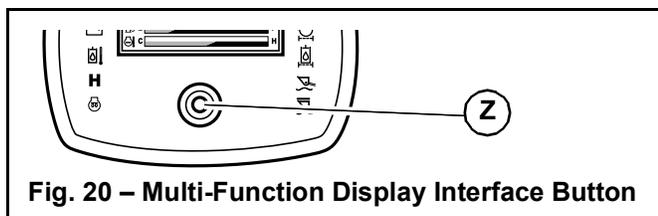
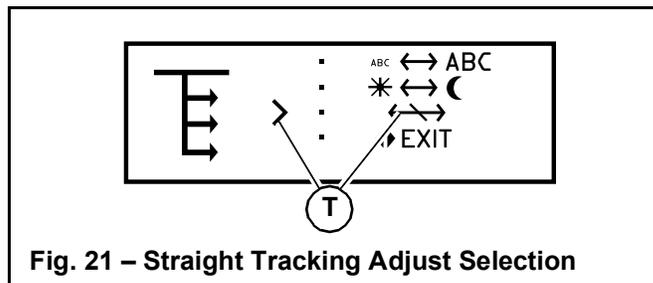
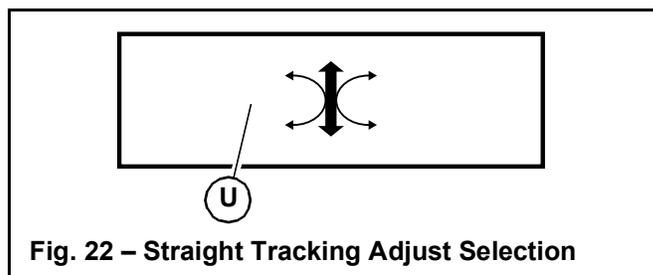
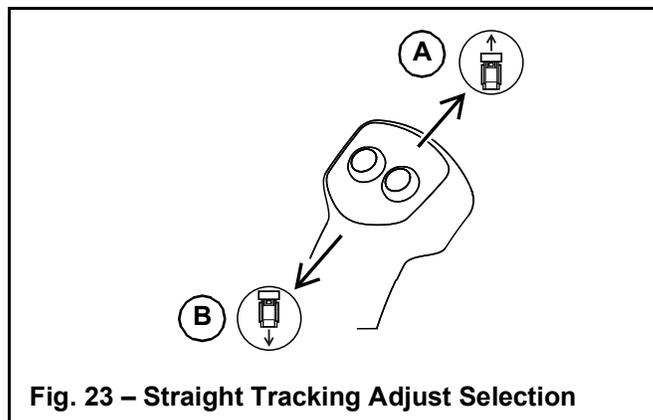

Fig. 20 – Multi-Function Display Interface Button
Fig. 21 – Straight Tracking Adjust Selection
Fig. 22 – Straight Tracking Adjust Selection
Fig. 23 – Straight Tracking Adjust Selection
4. Press and hold the interface button (Z, Fig.20) on the display until the configuration selection screen (Fig.21) displays.
5. Press and release the interface button until the selection caret points to the straight tracking adjust \leftrightarrow selection (T, Fig. 21).
6. Press and hold the interface button until the straight tracking adjust screen (U, Fig.22) displays.
- **Forward direction** – While holding left joystick (A, Fig. 23) fully forward, move the joystick either slightly left or right as required until the machine is tracking straight. With the joystick held in this position, press and hold interface button (Z, Fig.20) until the straight tracking screen (U, Fig.22) is dismissed.
- **Reverse direction** – While holding the left joystick (B, Fig. 23) fully back, move the joystick either slightly left or right as required until the machine is tracking straight. With the joystick held in this position, press and hold the interface button (Z, Fig.20) until the straight tracking screen (U, Fig.22) is dismissed.